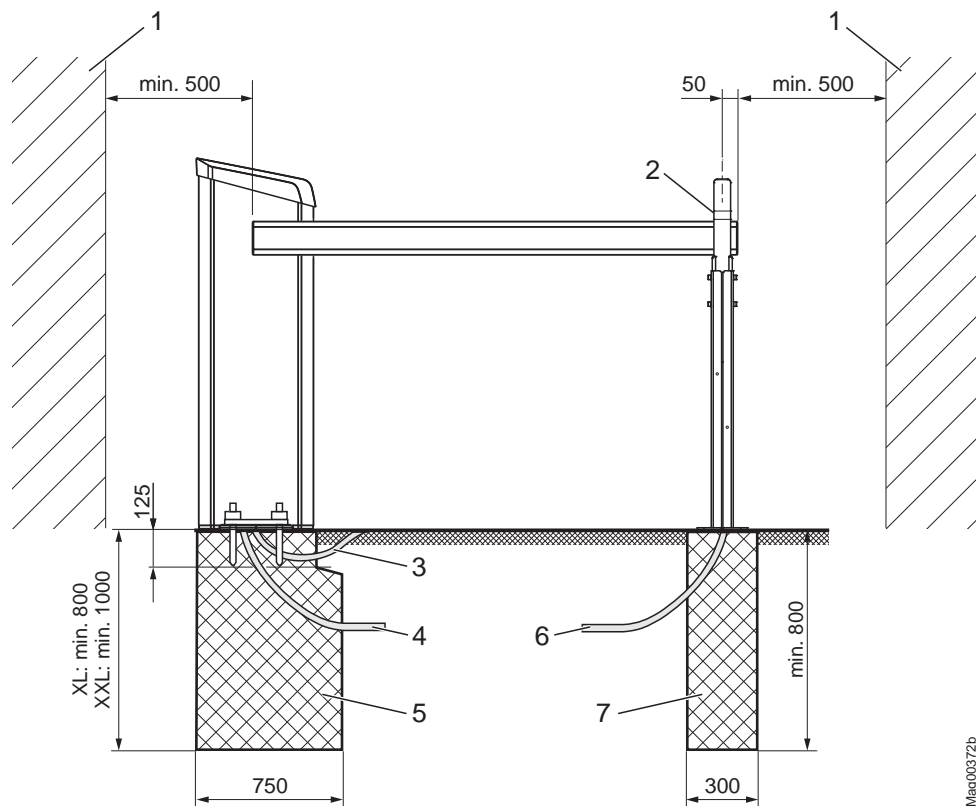
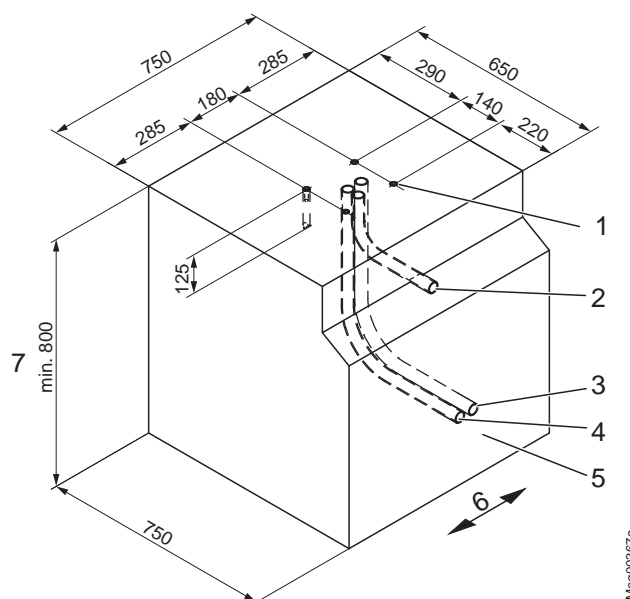
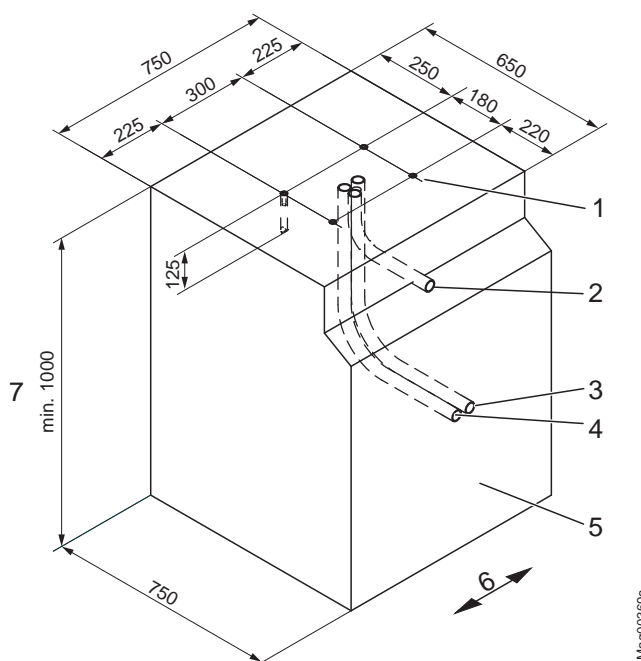

Fig. 11: Assembly boom system (dimensions in mm)
Fig. 12: Foundation plan Access XL (dimensions in mm)
Fig. 14: Foundation plan Access XXL (dimensions in mm)
<p>Danger of crushing and shearing if the safety distance between the barrier boom and other objects is too low!</p> <p>A closing or opening barrier boom can cause severe injuries from crushing if the safety distance to other objects is too low!</p> <ul style="list-style-type: none"> – Keep a safety distance of at least 500 mm between the barrier boom and other objects, such as walls, masonry or houses. → See page 23, chapter 2.7. – Assemble and install barrier system according to Fig. 11.
→ See page 44, Fig. 11.
→ See page 44, Fig. 11 and page 46, Fig. 12.
→ See page 46, Fig. 12.
1. Dig foundation hole pursuant to Fig. 11 and Fig. 12.
3. Place empty conduits pursuant to Fig. 12 in the foundation hole.
5. Fill concrete foundation pursuant to Fig. 12.
→ See page 44, Fig. 11 and page 48, Fig. 14.
→ See page 48, Fig. 14
1. Dig foundation hole pursuant to Fig. 11 and Fig. 14.
3. Place empty conduits pursuant to Fig. 14 in the foundation hole.
5. Fill concrete foundation pursuant to Fig. 14.